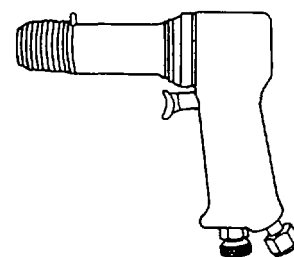

Figure 5-17. Pneumatic Hammer
(4) Perform grinding operations by holding the grinder so that the proper edge of the grinding stone is against the work.
**5-9. Pneumatic Hammer.** The pneumatic hammer, shown in figure 5-17, is used for heavy-duty cutting, shearing, punching, and chiseling and breaking joints. The built-in air regulator varies speed and power. Pneumatic hammers have strokes varying from 1 1/2 to 3 1/2 inches, at 2,000 to 4,500 blows per minute. This hammer uses insertable chisels with different end shapes, such as tapered punch, panel cutter, cut-off, and weld buster.